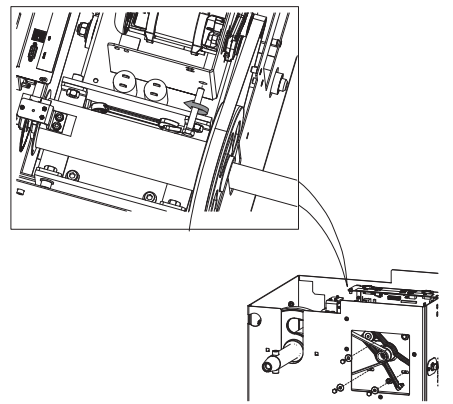

Fig. 21: Belt replacement
4. Remove the belt of the motor by loosening the three side screws (fig.21, pos. 1) and the screw (fig.21, pos.2) in order to loosen the belt;